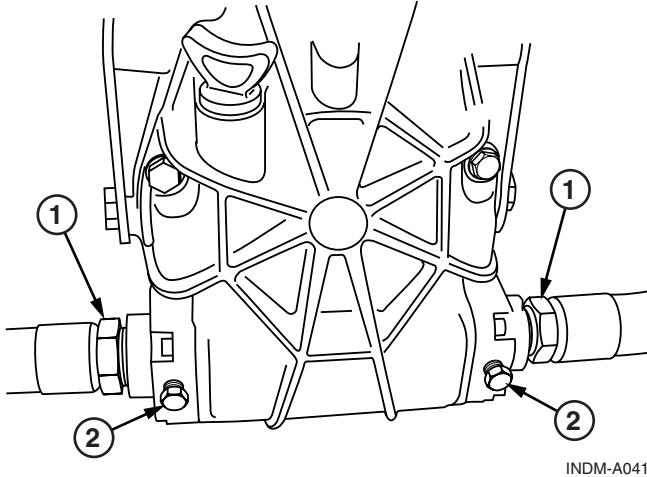

Figure 7.4 – Ski-Vee
6. On Ski-Vee equipped units, the hoses that are connected to the integral V-Drive cooler (1, Figure 7.4) must be removed to drain the hoses and cooler. The anodes (2, Figure 7.4) at the back of the cooler must be removed and inspected. Replace if they are 50% eroded.